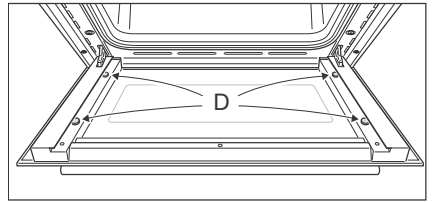

Fig. 49a
- Check that the four rubber pads are in place ("D" in Fig. 49a).